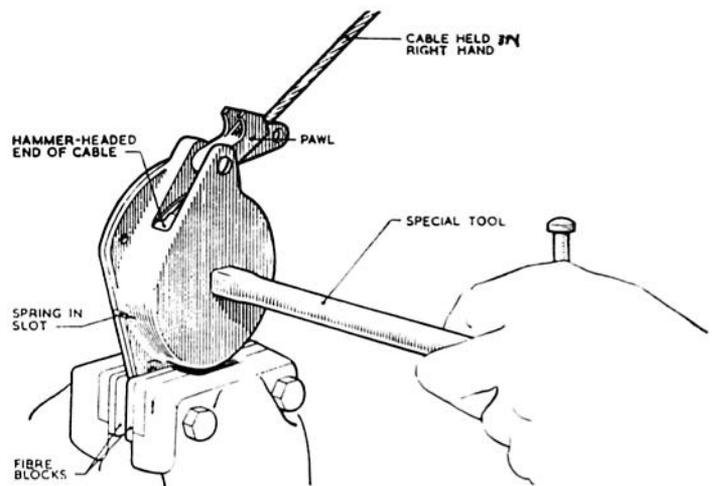

Fig. 1. Dismantling harness release unit
- (2) Remove the five 2 B.A. bolts from the flange of the unit and lift off the unit without allowing the halves of the casing to separate.
- (3) Lightly grip the casing flange between fibre blocks in the vice jaws (fig. 1). Pull out the cable to its full extent against the spring and prevent the spring from unwinding by holding the squared end of the wheel axle with the special box spanner (Ref. No. 27L/97). The hammer-headed end of the cable can now be lifted out of engagement with the slot in the pulley wheel and the cable withdrawn. Relieve the spring tension gradually by use of the box spanner.
- (4) Separate the two halves of the casing, remove the wheel and separator plate and disengage the spring from the slot in the casing.
- (5) Dismantle the pawl return spring by unscrewing the lower eye end whilst holding the top fork end.
- (6) The port unit has no return spring; otherwise dismantle it in a similar manner.